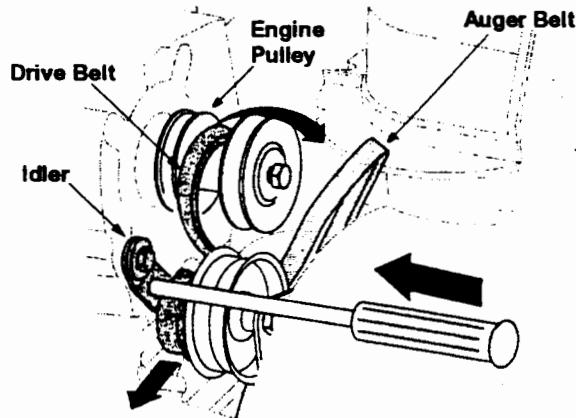

Figure 20
3. Push idler counter-clockwise and insert a Philips head screwdriver in the hole on the idler as shown in Figure 20. This will release tension on drive belt.
4. Pull drive belt out and away from the engine pulley to remove. See Figure 20.